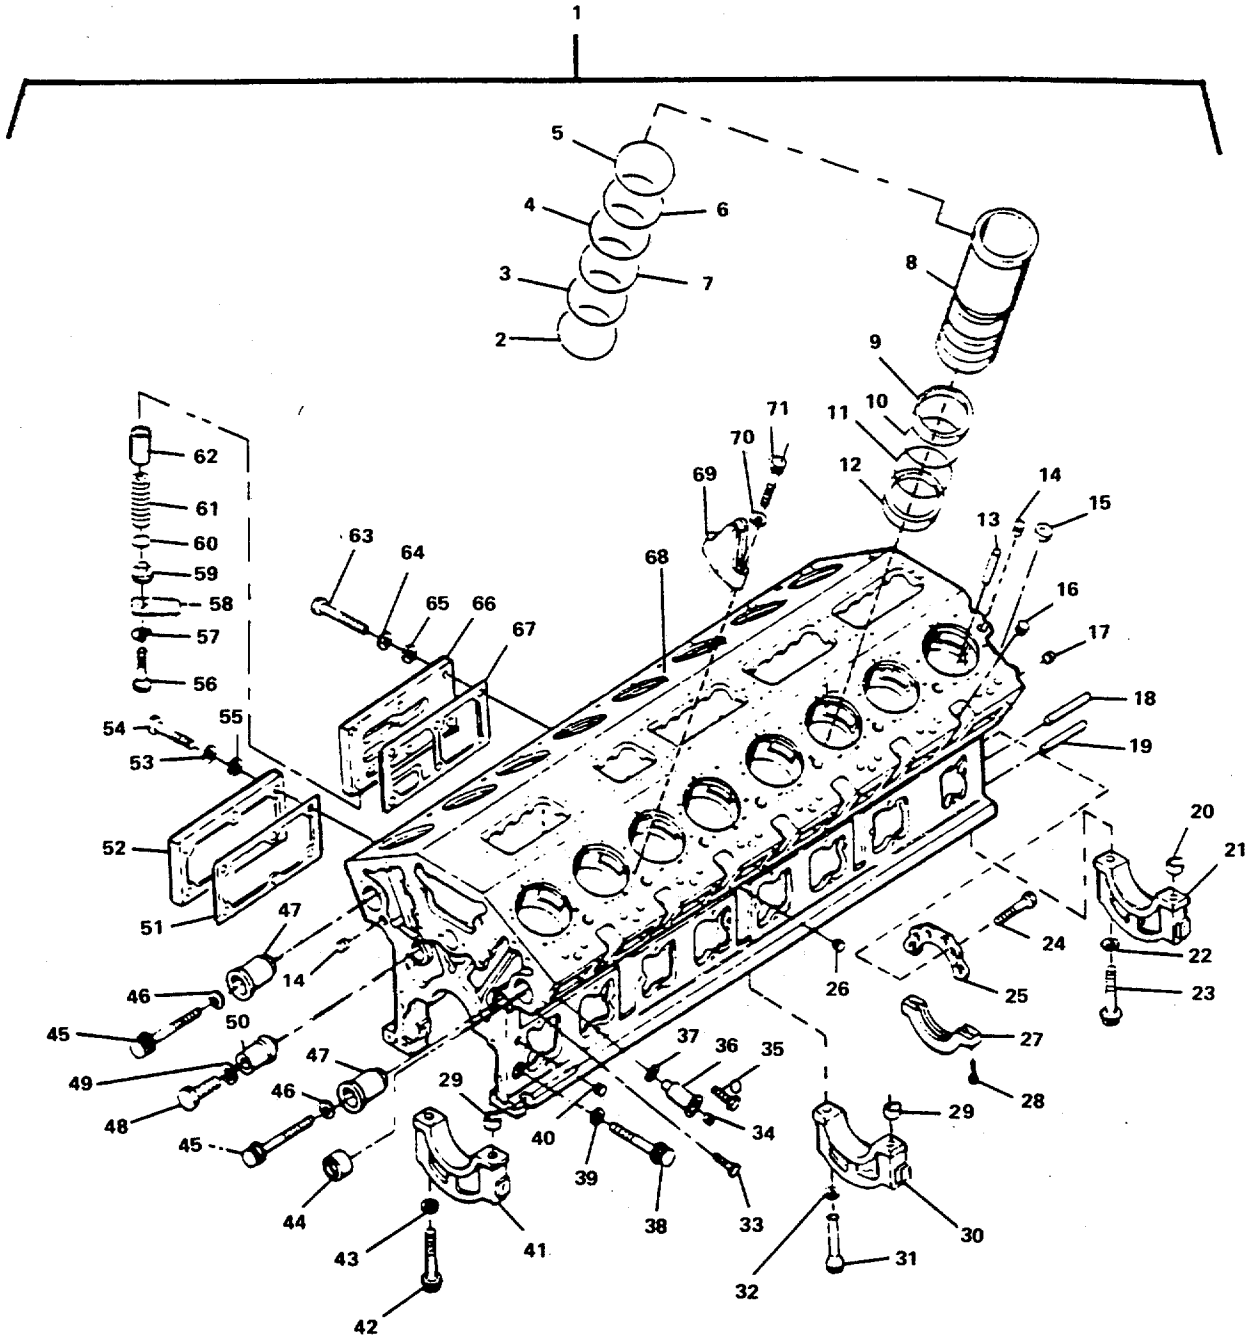
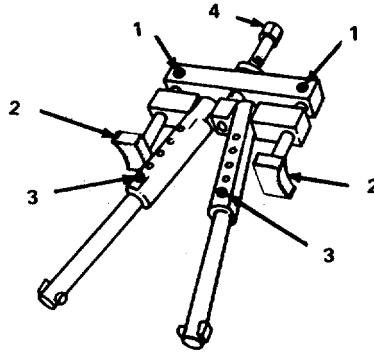
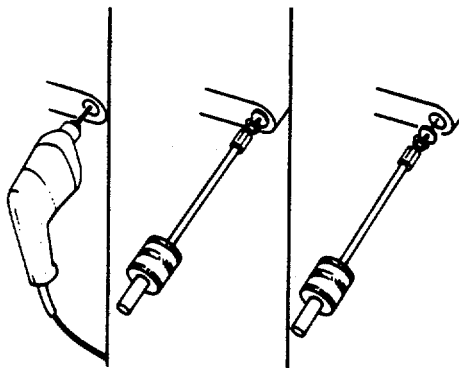
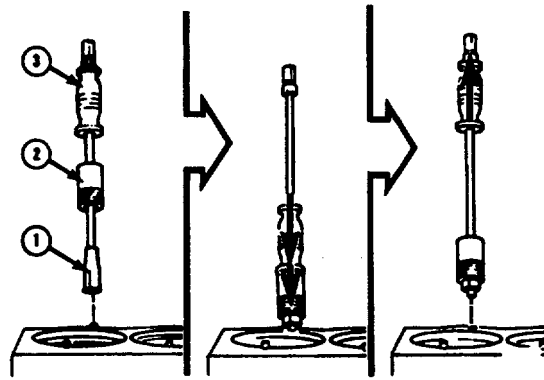

FIGURE 4-75. Cylinder Block Assembly.
FIGURE 4-77. *Cylinder Liner Puller.*
FIGURE 4-78. *Expansion Plug/Shield Removal.*
FIGURE 4-79. Dowel Removal.
- b. Remove components from cylinder block (1, FIG. 4-75). Refer to procedures in chapters 2, 3, and 4.
- (1) Remove machine bolts (63, FIG. 4-75), lockwasher (64) and washer (65).
- (2) Remove piston cooling regulator (66) and gasket (67). Discard gasket.
- (3) Remove machine bolts (54), lockwasher (53), and washer (55).
- (4) Remove oil jumper cover (52) and gasket (51). Discard gasket.
- (4) Remove water pump shaft (50, FIG. 4-75).
- (1) Loosen set screws (1, FIG. 4-77) on cylinder liner puller.
- (2) Turn feet (2) until the curved side is turned from the center.
- (3) Move holding pins (3) to last hole.
- (4) Install puller in cylinder liner.
- (5) Turn puller screw (4) until liner loosens in block. Remove tool and cylinder liner (8, FIG. 4-75).
- (6) Remove shims (2 through 7), preformed packing (10 and 11), plain seal (12), and special ring (9).
- (1) Use a drill, metal screw and slide hammer and hook from the light duty puller kit (FIG. 4-78) to remove expansion plug (15, FIG. 4-75) and expansion shields (14).
- (2) Remove dowels (13, 18, and 19) (FIG. 4-75). ;-
- (a) Put split collet (1, FIG. 4-79) of dowel pin extractor over dowel.
- (b) Slide extractor collar (2) over split collar (1).
- (c) Use slide hammer (3) to push extractor collar (2) tightly over split collar (1).
- (3) Remove pipe plugs (16, 17, 26, FIG. 4-75) and drain cock (33).
- The engine contains two camshaft bushings (44, FIG. 4-75) in each bore except in the LB front and RB rear bores. These bores contain one bushing only.
- h. Check the head deck of the block (68, FIGURE 4-75) for wear using a precision straight edge. Verify no fretting is visible in areas when head gasket seal rings or grommets touch.